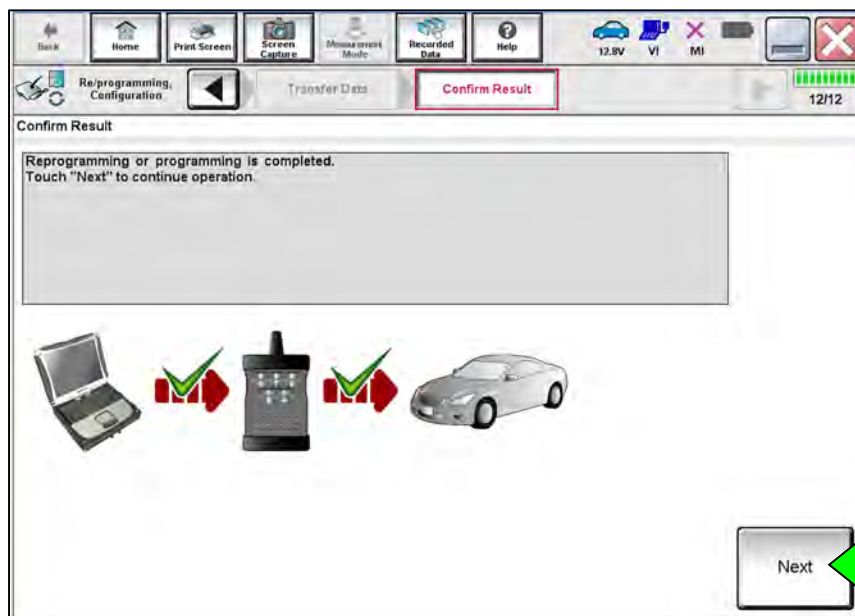

Figure 20
- When the screen in Figure 20 displays, the reprogramming is complete.
- If the screen in Figure 20 does not display (indicating that reprogramming did not complete), refer to **Sonar Control Unit Recovery** on the next page.